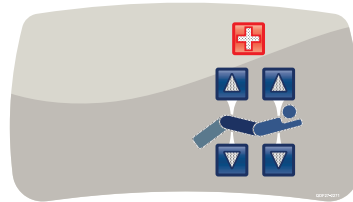

**Figure 127: Attaching the optional patient control pendant**
1. Slide the pendant into the molded pendant holder inside the foot end siderail handle (A) (Figure 127 on page 106).
2. Plug the pendant cable connector into the pendant connector that is located behind the foot end siderail (B) (Figure 127 on page 106).